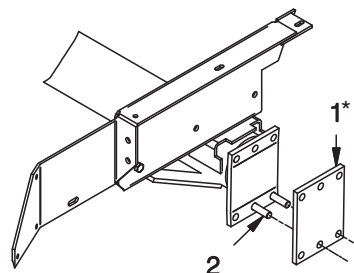

Figure 1 - Mounting Spacer
A. Place (2) R13807958 Bolts through the axle as shown in Figure 1. Place (1) F000007636 Spacer Plate onto the axle where the 2 bolts are as shown in Figure 1.